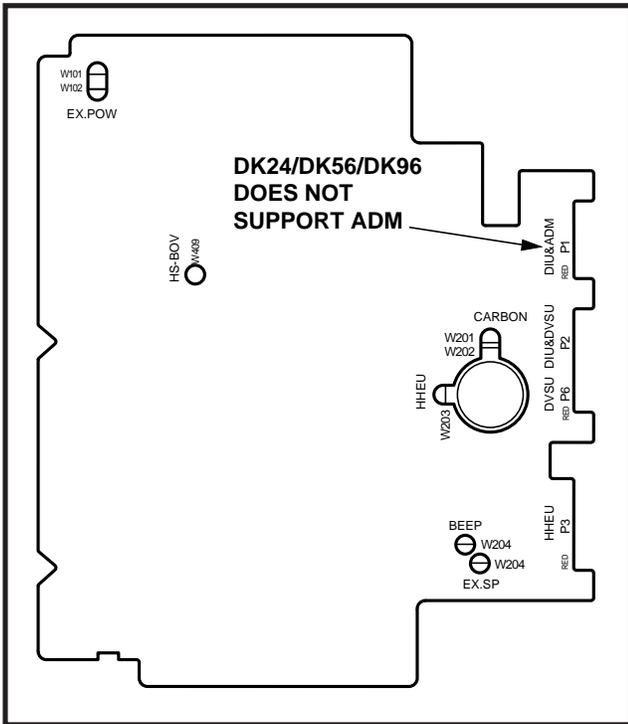
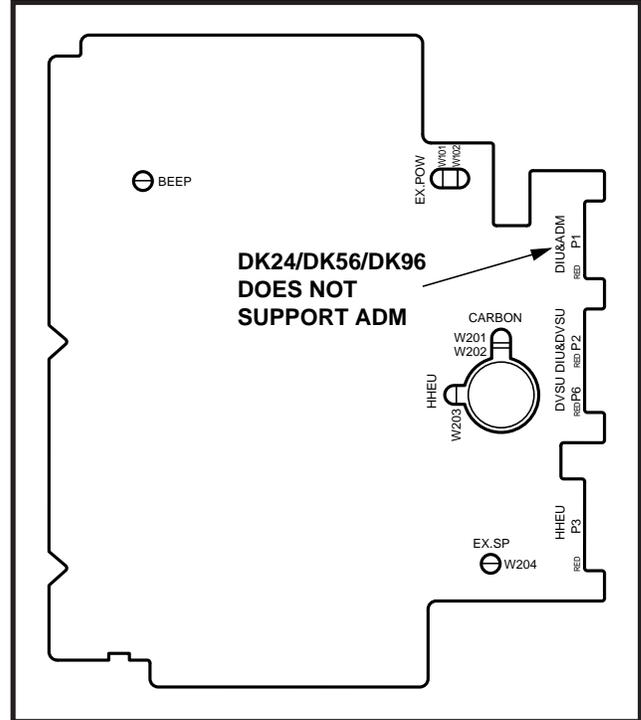

FIGURE 7-7
FIGURE 7-8
- 4A) If installing the DVSU into a 2000-series digital telephone, refer to Figures 7-7 (DKT2010-H) or 7-8 (DKT2010-SD, DKT2020-S, DKT2020-SD), and then connect the DVSU wire plugs to the **DVSU** connectors on the printed circuit board (PCB) inside the telephone.
- 7A) For 2000-series digital telephones, refer to Figure 7-7 (DKT2010-H) or Figure 7-8 (DKT2010-SD, DKT2020-S, DKT2020-SD), and connect the wire plug of the HHEU PCB to the **HHEU** connector on the printed circuit board (PCB) on the telephone.
- 8A) For 2000-series digital telephones, refer to Figure 7-7 (DKT2010-H) or Figure 7-8 (DKT2010-SD, DKT2020-S, DKT2020-SD), and locate the **EX.SP** strap on the PCB in the telephone. Cut the strap if an HESB will be connected to the HHEU.
Figure 7-7 (DKT2010-H) or Figure 7-8 (DKT2010-SD, DKT2020-S, DKT2020-SD), and locate the **HHEU** strap on the PCB in the telephone. Cut the strap if a headset will be connected to the HHEU.
- 2A) For 2000-series digital telephones refer to Figure 7-7 or 7-8, and cut the **CARBON** straps, **W201** and **W202**.
- 2A) For 2000-series digital telephones, refer to Figures 7-7 or 7-8, and cut the **BEEP** strap.
- 2) Refer to Figure 7-7, and install a strap in the **HS-BOV W409** location.
- 2) Depending on the telephone, refer to Figure 7-7, 7-8, or 7-9 and locate the **EX.POW** straps, **W101** and **W102**. Cut these straps.